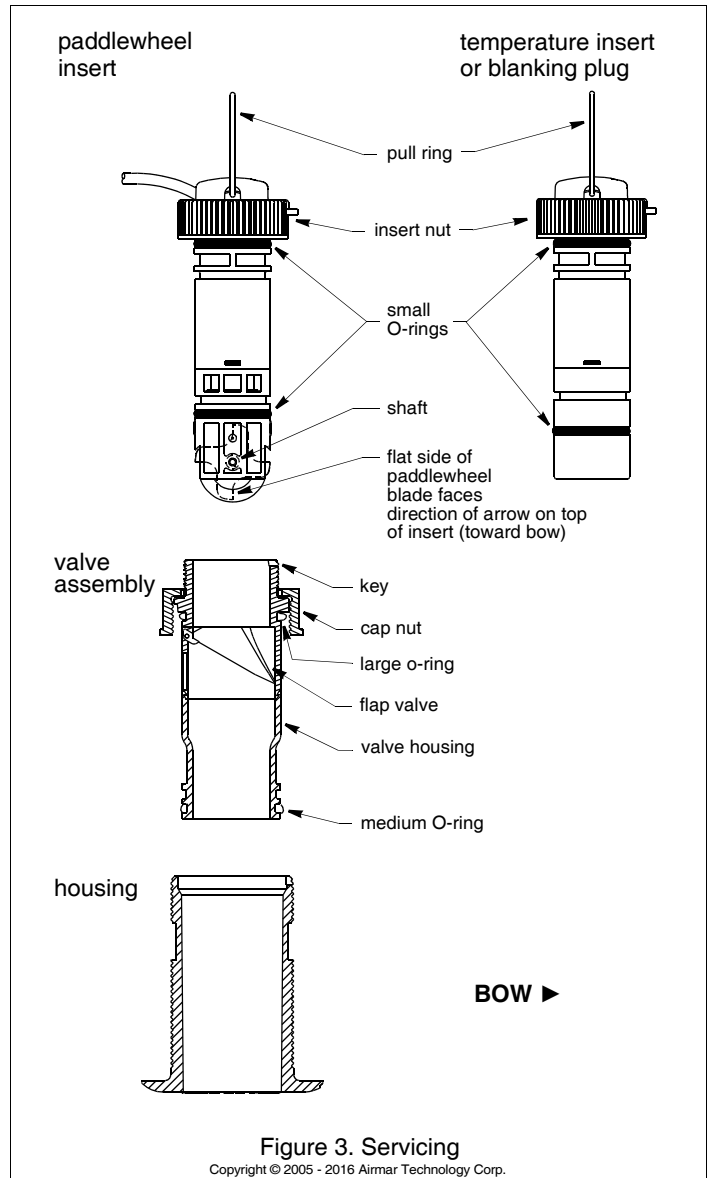

Figure 3. Servicing
5. The O-rings must be intact and well lubricated to make a watertight seal. After the marine sealant cures, inspect the O-rings on the valve assembly (replace if necessary) and lubricate them with the silicone lubricant supplied (see Figure 3).
1. Place the INSERT nut on the top of the *long* blanking plug. Attach the pull ring to the plug, capturing the insert nut (see Figure 3).
5. Slide the *long* blanking plug into the housing (see Figure 3). Seat it into place with a pushing twisting motion until the key fits into the notch. Screw the INSERT nut in place and **hand tighten** only. Do not over tighten.
2. The O-rings must be intact and well lubricated to make a watertight seal. Inspect the O-rings (replace if necessary) and lubricate them with silicone lubricant or petroleum jelly (Vaseline®) (see Figure 3).
6. Clean, repair, or replace the valve assembly, so the flap valve moves freely and seats against the valve housing (see Figure 3).
1. Using the new paddlewheel shaft, push the old shaft out about 6mm (1/4"). With pliers, remove the old shaft (see Figure 3).